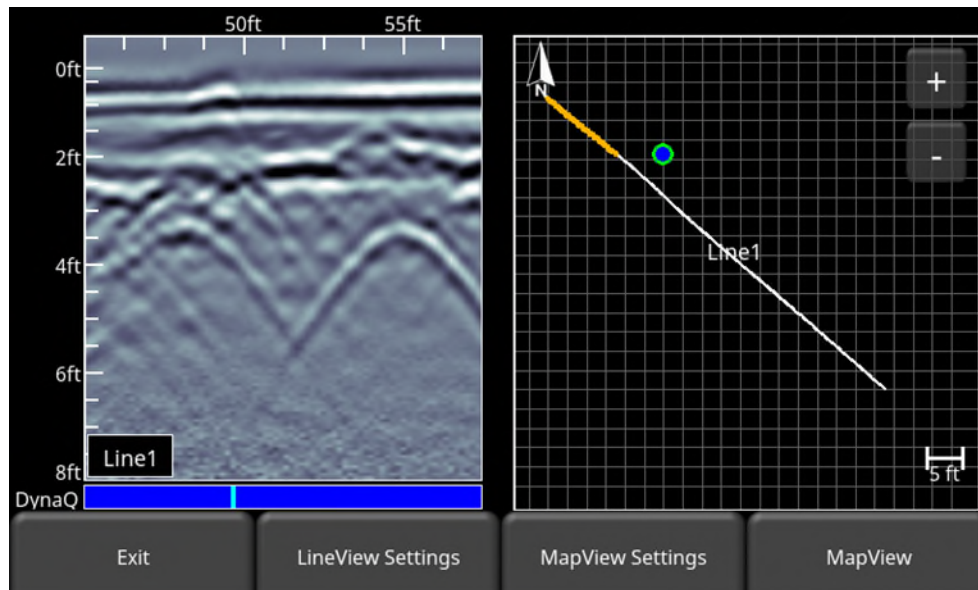

Figure 9-2: Accessing MapView from the SplitView screen in Line Scan
- From the Line Scan screen, using the SplitView feature (Figure 9-2). Details of SplitView are explained in Section 6.6.